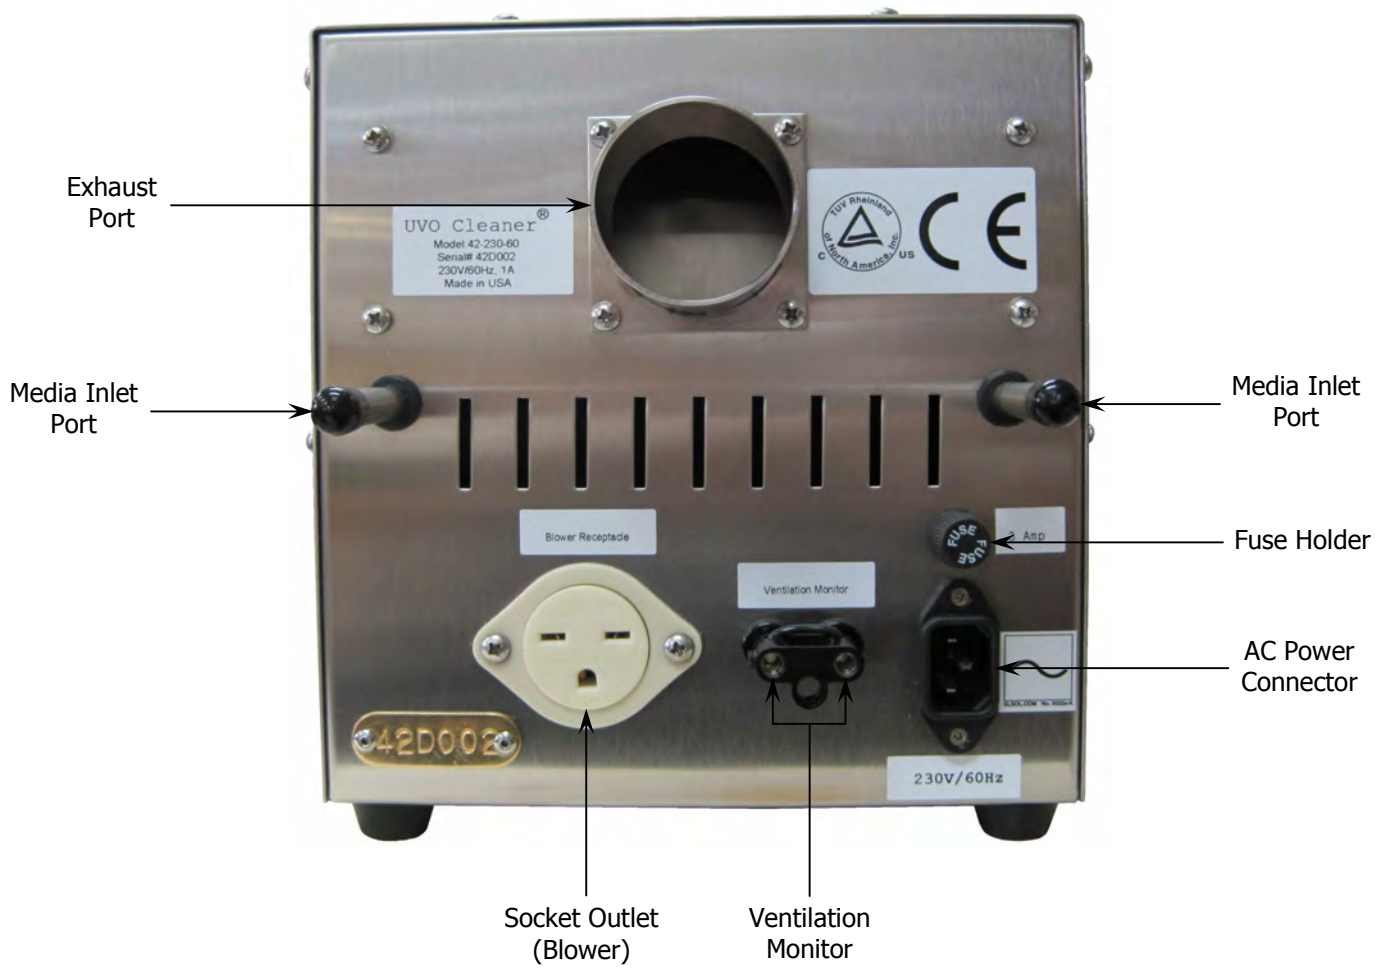

FIG. 2
Refer To Figure 2 and 3
- 2 Optional: The Ventilation Monitor in Figure 2 may be connected to a customer supplied flow meter measuring the exhaust system.
- 3 Remove the vinyl caps from the Media Inlet Ports ⑧ located at the rear of the system.
- 4 Optional: connect the Media Inlet Ports ⑧ to a media supply.
- 5 Install Lamp Assembly ③ per Lamp Installation Procedure.